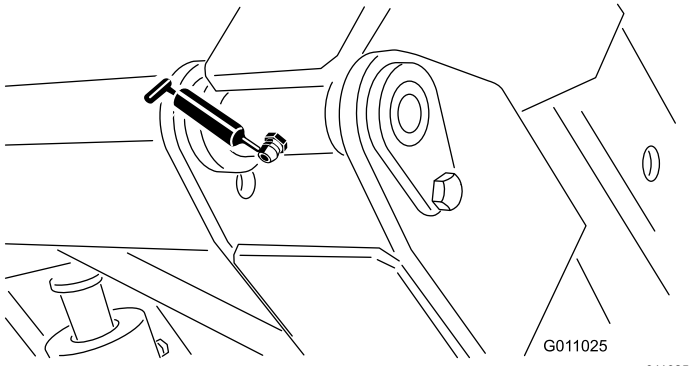

Figure 33
- Hopper pivot (upper) (2) (Figure 33)